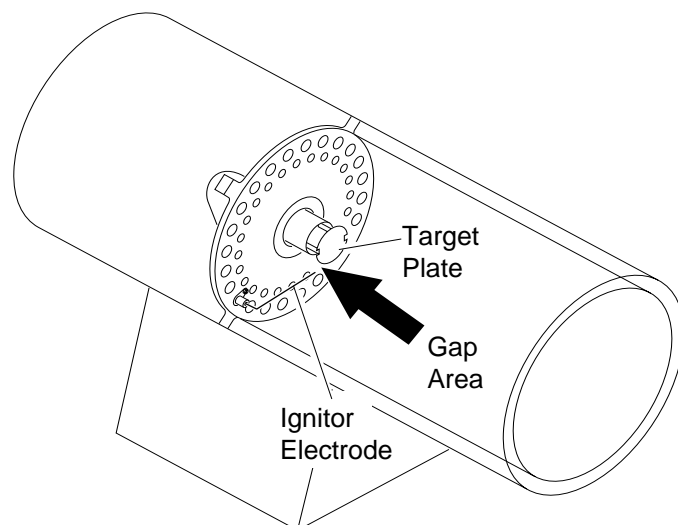

Figure 13 - Clearance between Ignitor Electrode and Target Plate
No spark at ignitor. To test for spark, follow step 9 under Ignitor , page 13. If you see spark at ignitor, have heater serviced by qualified service person. If no spark seen: A) Loose or disconnected ignitor wire B) Wrong spark gap C) Piezo ignitor loose D) Bad ignitor electrode	A) Check ignitor wire. Tighten or reattach loose ignitor wire. See Figure 13, page 13 for ignitor wire location. B) Set gap between ignitor electrode and target plate to .17" (4.3 mm). C) Tighten nut holding piezo ignitor to base of heater. D) Replace ignitor electrode. See Ignitor , page 13.
7. Set gap between ignitor electrode and target plate to .17" (4.3 mm) (see Figure 13).